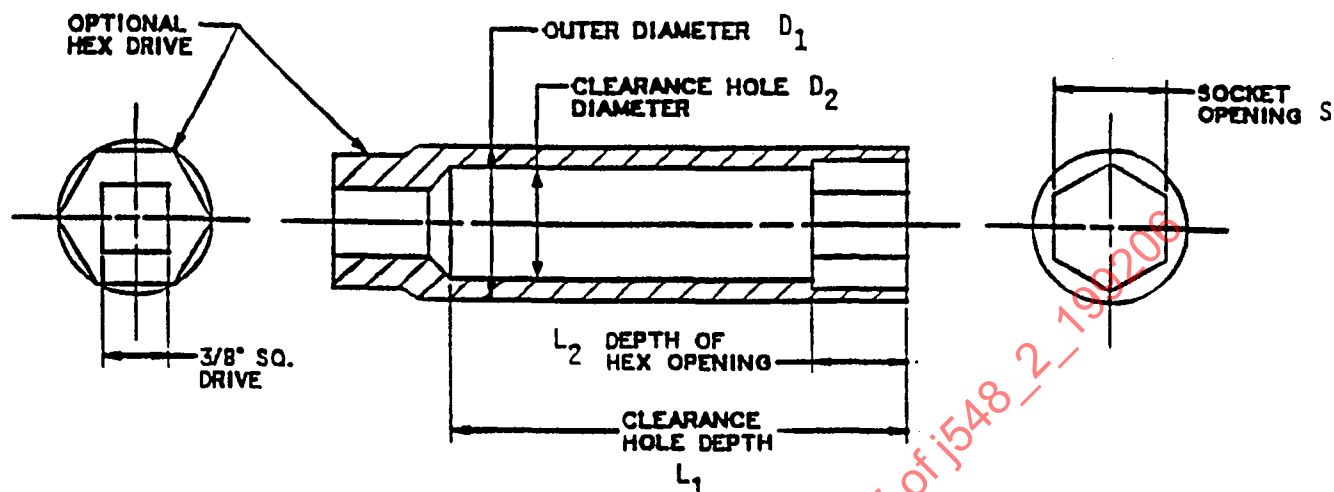

FIGURE 1—SPARK PLUG INSTALLATION DESIGN
**3.** The spark plug installation socket shall be of the long length type and the conventional single hexagon design. A replaceable oil and heat resisting retaining bushing or other equally suitable device shall be installed inside the socket to prevent damage to the spark plug insulator and for aligning and retaining the spark plug for easy installation and removal. This bushing should be pliable and compressible to minimize side loading to the spark plug insulator. The socket shall be similar to Figure 1 except for the following: